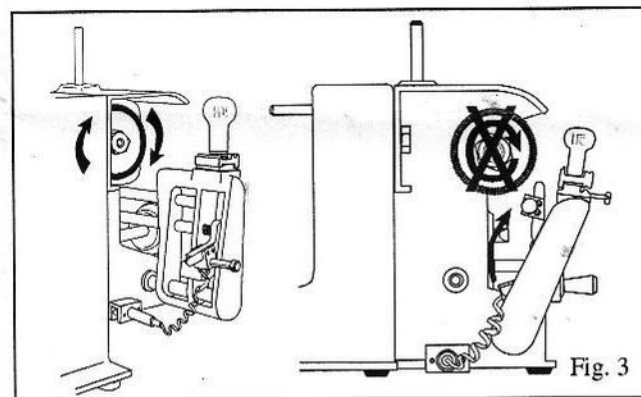

Fig. 3
3. Lower the shoulder gauge down using the Easy Flip. Plug in machine and turn on main switch at the rear of the unit. The cutter motor should engage in this position and disengage when the shoulder gauge is raised upward with the Easy Flip. If the motor does not activate when the main switch is turned on, the Easy Flip needs to be readjusted as described in steps 1 and 2. See Fig. 3.